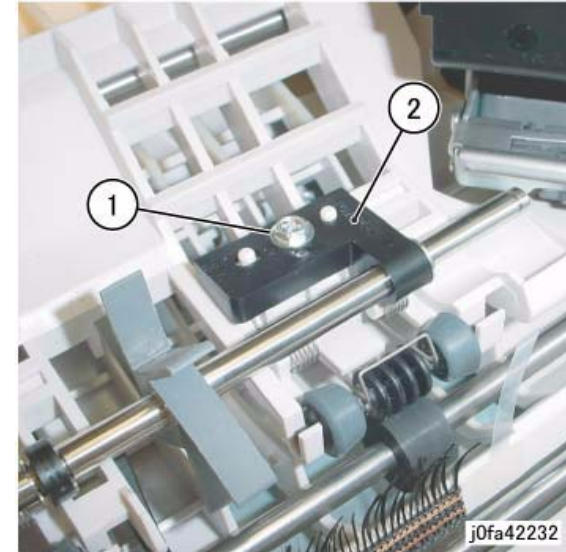

Figure 4 Removing the Support Bearing
8. Remove the Support Bearing from the Entrance Lower Chute Assembly (Figure 4):